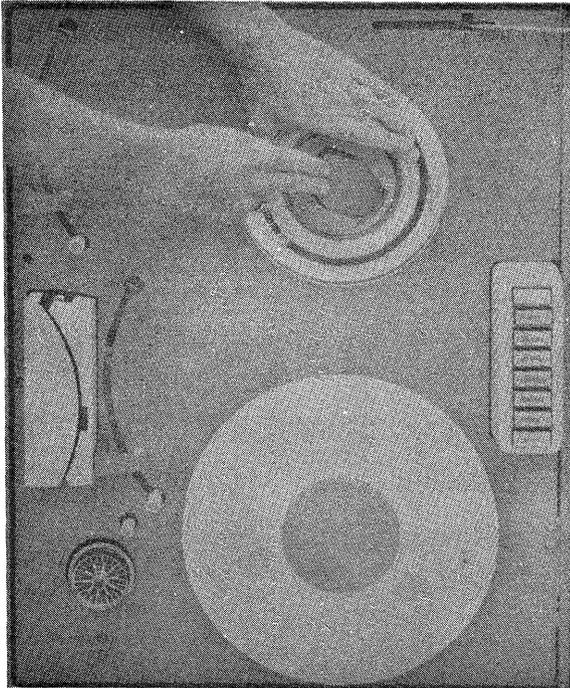

Figure 3-16. Loading the Supply Reel
5. Guide tape reel onto the hold down ring and gently press into place. Press hold down until it is flush with the supply knob locking the tape reel into place. (See Figure 3-16.)